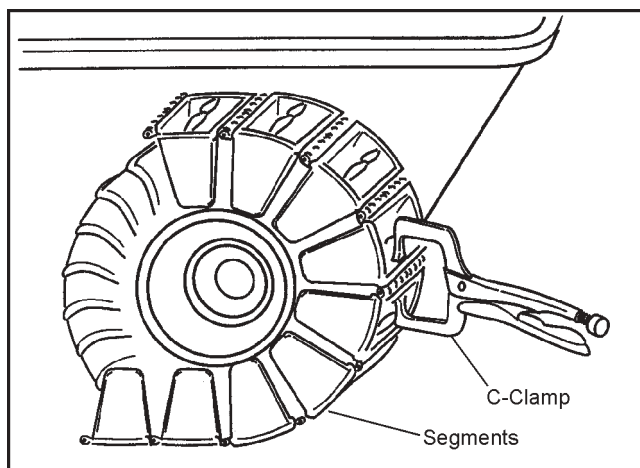

Figure 11-6. Track Assembly
- Join the two ends of the track and secure them in place with C-clamps as shown in Fig. 11-6, so that the 1/4" holes are lined up.
- Use C-clamp to take tension off of track pin, as in Fig.11-6.